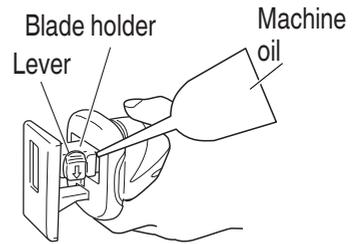

Fig. 14
- (2) As shown in **Fig. 14**, carry out lubrication around the blade holder on a periodic basis by use of cutting fluid, etc.